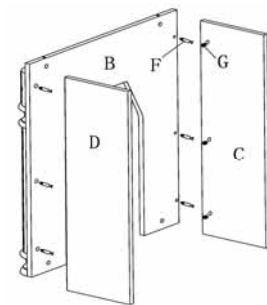

Figure 1
1. Lay FRONT PANEL (B) down on a soft surface to avoid damaging the mantel surface and finish. place screw 6 CAM DOWELS (F) into the FRONT PANEL (B) as shown in figure 1. Insert 6 CAM LOCKS (G) into the mating holes in the LEFT SIDE (C) and RIGHT SIDE (D) with the triangle arrow pointing towards the hole in the edge. Mate the LEFT SIDE (C) and RIGHT SIDE (D) with the CAM DOWELS (F) in FRONT PANEL (B) and twist CAM LOCKS (G) clockwise with a screwdriver to tighten mantel sides to front panel.